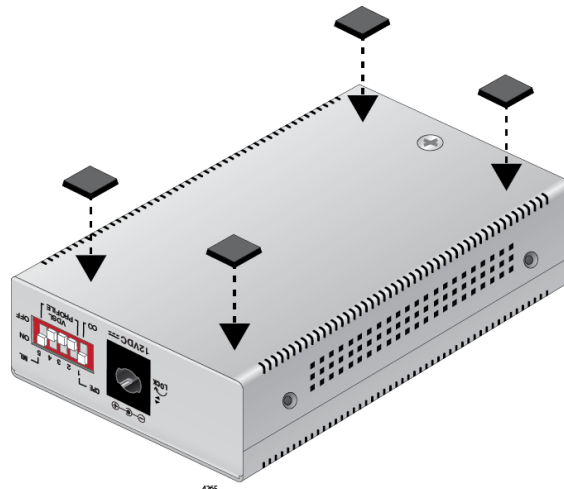

Figure 10. Subscriber Unit - Installing Feet
1. Position the Subscriber unit upside down and attach the rubber feet provided to the bottom of the unit as shown in Figure 10.
1. Position the Provider unit upside down and attach the rubber feet provided to the bottom of the unit as shown in Figure 10.